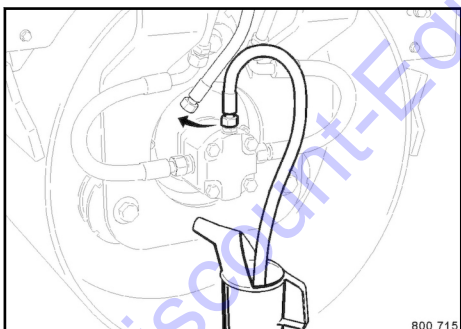

Fig. 125
3. Disconnect the leak oil hose ↪ Fig. 125, connect a measuring hose and hold it into a measuring beaker.